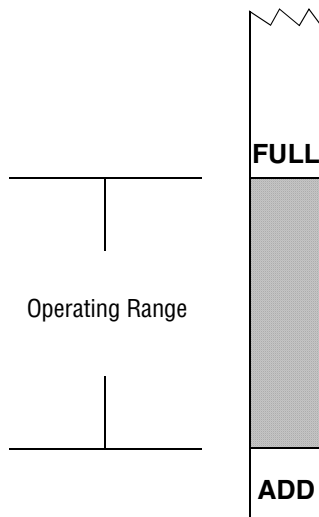

Figure 15
- Wipe the dipstick clean; then reinsert the dipstick until the cap rest on the oil fill tube. Withdraw the dipstick to check the oil level. Refer to Figure 15.
- Fill the crankcase until the oil level reaches the full (**Full**) mark on the dipstick. Refer to Figure 15. Refer to the viscosity oil chart earlier in this section for information regarding the proper type of oil to add to the crankcase.
- **Slowly** pour oil into the fill tube. Fill the crankcase until the oil level reaches the full (F) mark on the dipstick (Refer to Figure 15).